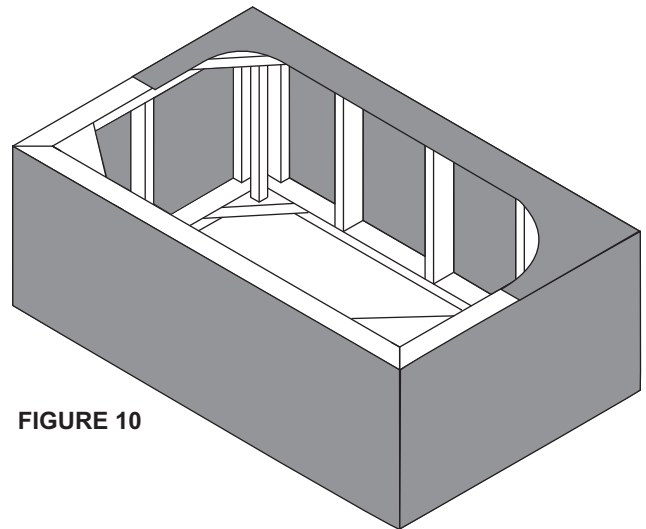

FIGURE 10
- Fix one half on the frame as shown in figure 10.